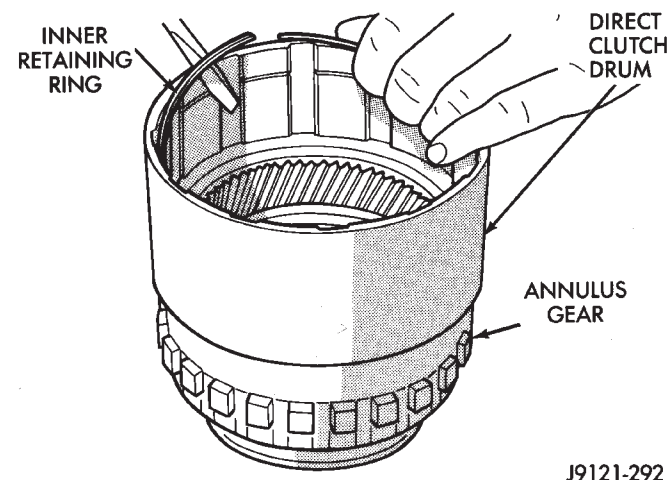

Fig. 205 Clutch Drum Inner Retaining Ring Removal
(7) Remove direct clutch drum rear retaining ring (Fig. 205).